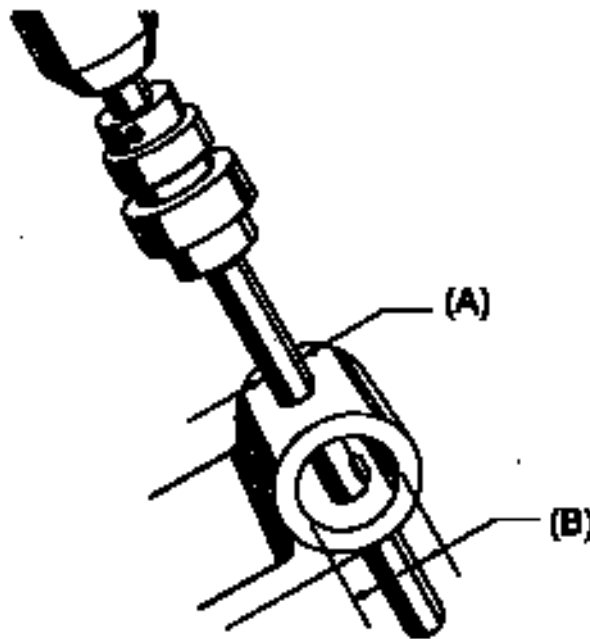

Figure 4
*Standard blades* may be used for intersecting hole applications where the larger hole "B" is 12 or more times *greater* than the smaller hole "A" (refer to Figure 4).